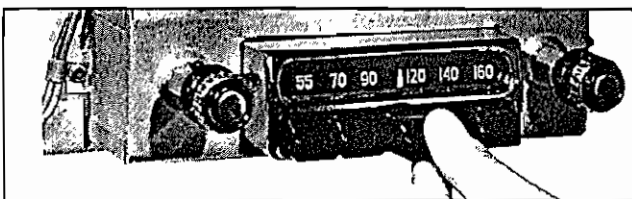

Figure 22
1. Pull push button slightly to the left and out as far as it will go, see Figure 22.